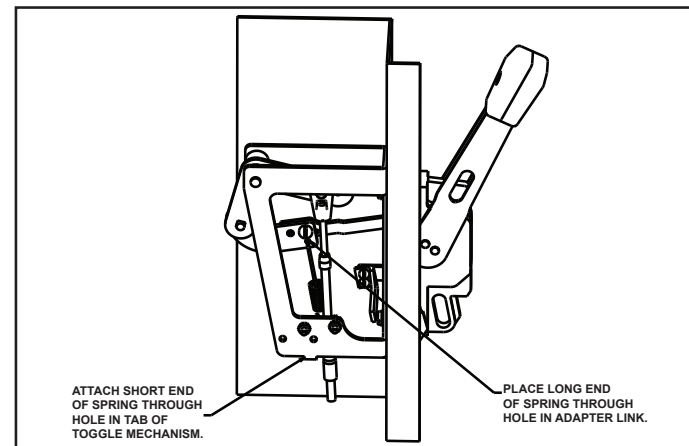

Fig. 1-6 Assembly of Spring to Toggle Mechanism.
6. Connect the long end of the spring through the hole in the adapter link. Hook the shorter end of the spring into the tab on the lower portion of the toggle mechanism (see Fig. 1-6).